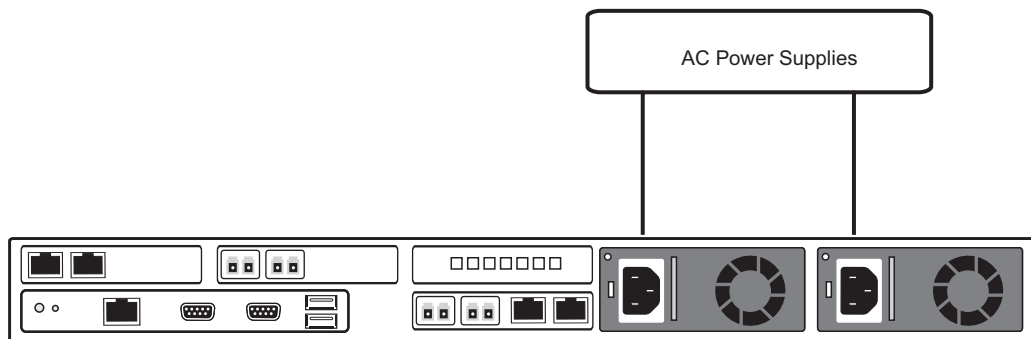

Figure 3.7 TSBC-HW-SRV AC Power Connections
1. Connect the first power connector of the TSBC-HW-SRV to the first power source. See Figure 3.7.